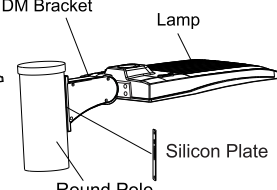

Figure 15
- Same as round pole installation, please remember to remove the silicon plate when install the fixture in round pole (Figure 15)